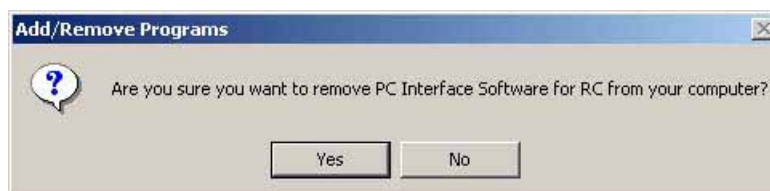

Fig. 1.11 File Delete Check
- [3] When a file delete check window (Fig. 1.11) is displayed, click Yes.